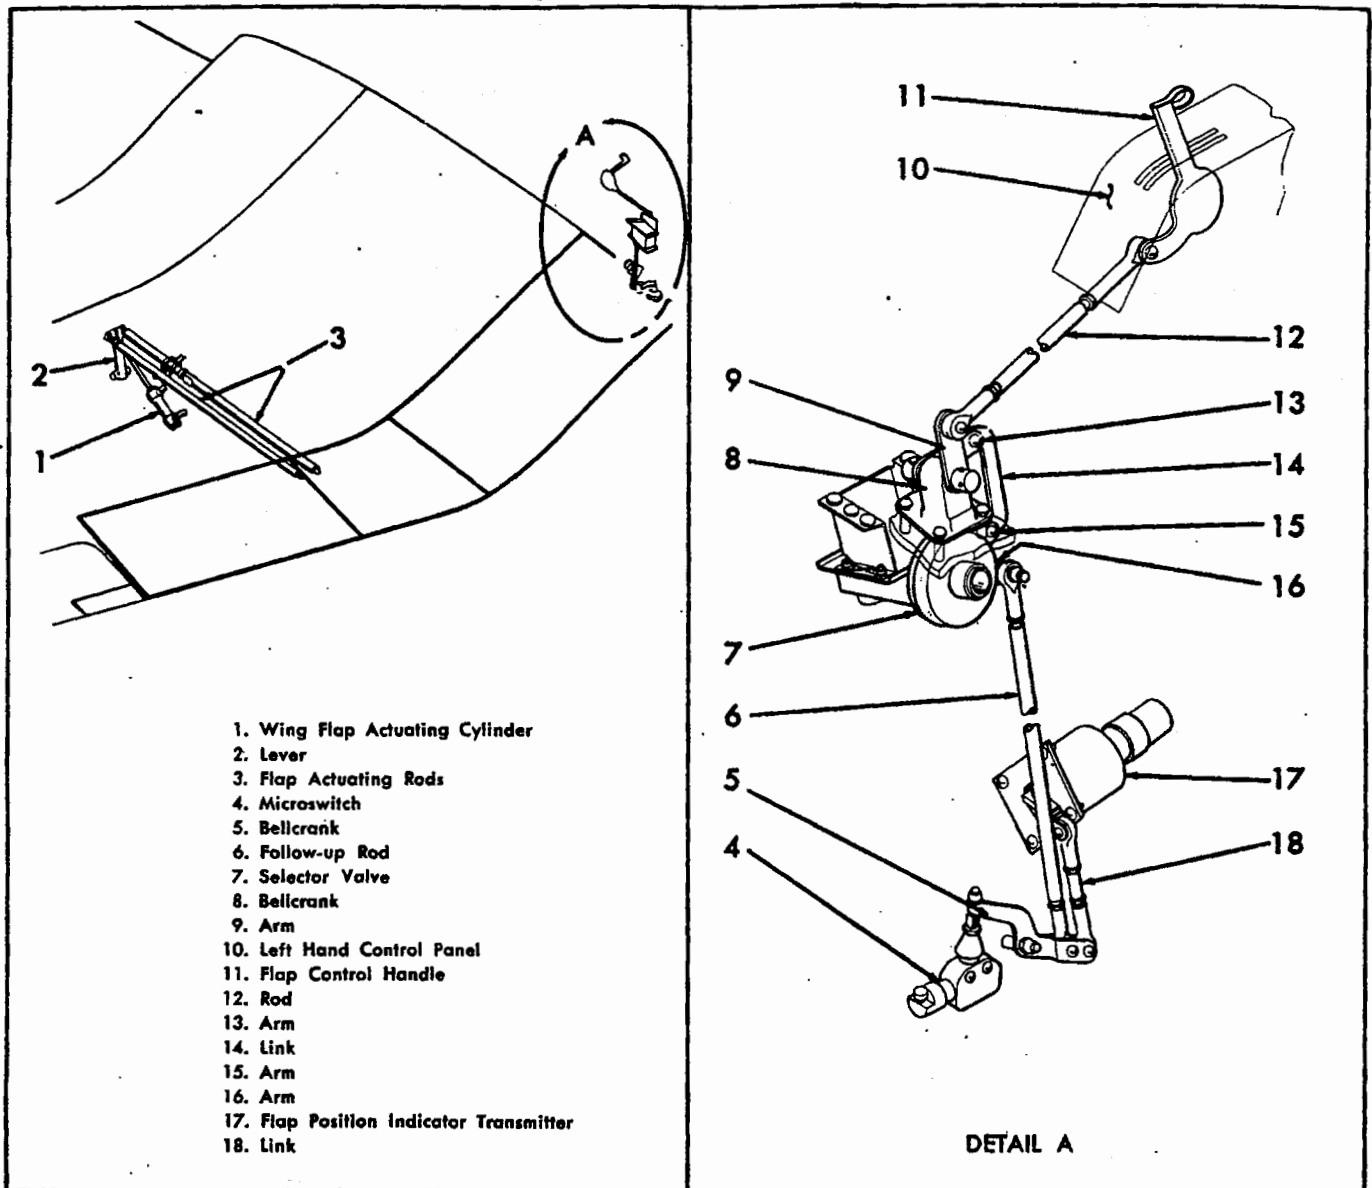

Figure 4-28. Wing Flap Control System.
4-192. DESCRIPTION. (See figure 4-28.) The wing flap control mechanism operating the center section outer panel flaps is designed so that the flaps can be lowered hydraulically from the full "up" position of 0° to the full "down" position of 50° in steps of ten degrees. A flap positioning handle is located on the outboard side of the engine control unit; the flap positions are visibly indicated in degrees on the housing. In addition, an electrically actuated flap position indicator is provided on the inclined portion of the left hand control panel; see paragraphs 4-1504 through 4-1518. At the lower aft end of the unit an "EMERGENCY DOWN" position is provided. In routine operation, the flap handle moves from the zero degree position to the fifty degree "DOWN" position. In an emergency, such as that due to stoppage of the engine-
4-195. FUNCTION. (See figure 4-28.) When the flap control handle (11) is moved to a selected position, rod (12) moves arm (9) of bellcrank (8) on the cockpit floor. Rotation of this arm moves another arm (13) of the bellcrank (8) moving link (14) attached to arm (15) of the flap selector valve (7) underneath the cockpit floor at station 149. When arm (15) of the selector
4-198. REMOVING. (See figure 4-28.) With wings folded and working through the cockpit and belly access door, remove the control system as follows:
On assembly, lubricate the bolt in the lever assembly (reference (2) on figure 4-28) and the shoulder bushing, bolt and spacer on the wing flap actuating cylinder (reference (1) on figure 4-28) with AN-G-10 or AN-G-15 grease.
4-201. ADJUSTING. (See figure 4-28.) After installation of cockpit flap operating linkage, adjust the center section flaps in the following manner: